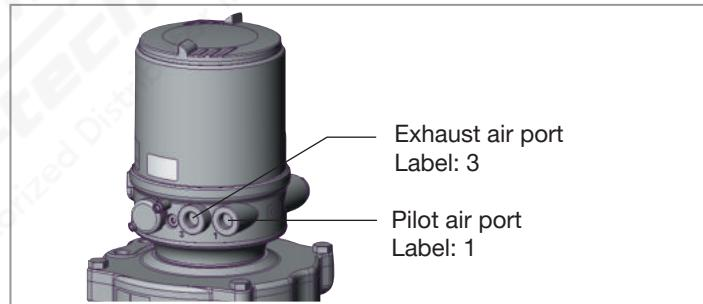

Fig. 14: Pneumatic connection Type 8686
- Connect the control medium to the pilot air port (1) (6 – 7 bar; instrument air, free of oil, water and dust).
- Mount the exhaust air line or a silencer on the exhaust air port (3) (see "Fig. 14: Pneumatic connection Type 8686").